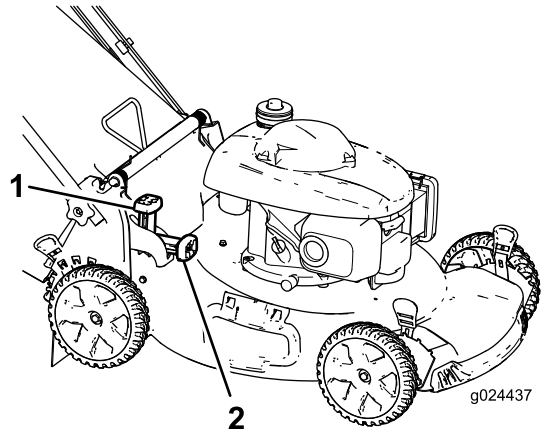

Figure 15
- **To bag the grass and leaf clippings**, press the button on the bag-on-demand lever and move the lever forward until the button on the lever pops up (Figure 15).